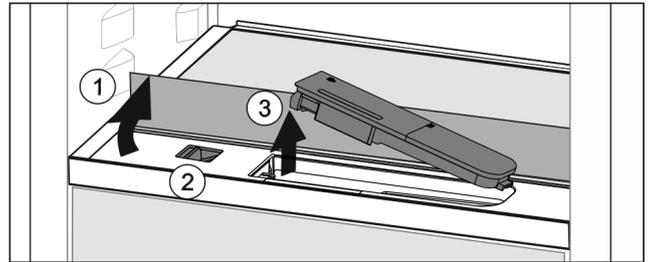

Fig. 51
- ▶ Lift the glass panel and fold to the back as far as it will go Fig. 51 (1).
- ▶ Slide the slider Fig. 51 (2) to the left.
- ▶ Remove the water tank Fig. 51 (3).